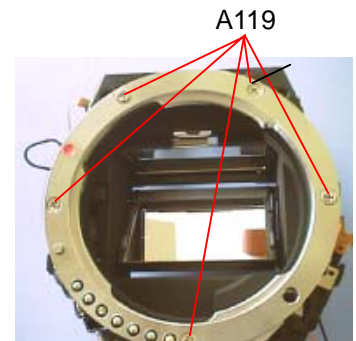

Fig.55
- 3) Tighten A119 (x5) in the numerical order ( , , ·· , ) as shown in Fig.55, and then confirm the mechanical back again.